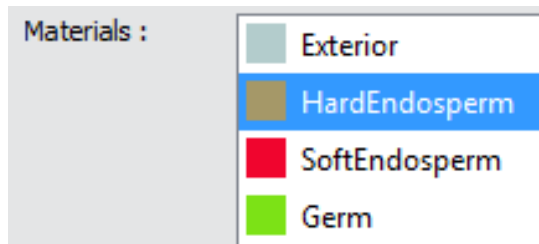

Figure 22.25: Material Selection
- *Plan*: This mode allows you to select the triangles of a given material which lie close to the bounding box plan. The plan can be selected from the plan combo box. The material is selected from the materials list (Figure 22.25). When the elements are not exactly in the bounding box plan, or follow a curved wall, it is possible to select them using a tolerance through a dedicated slider, that increases the area of selection away from the selected plan.